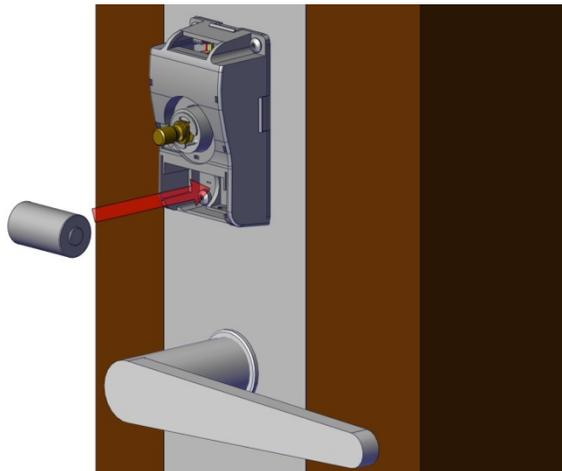

Fig. 14
Step 6: Install Battery. Please verify the battery is inserted in the correct polarity position. Always use new batteries installed with correct polarity (Fig. 14 and 15).